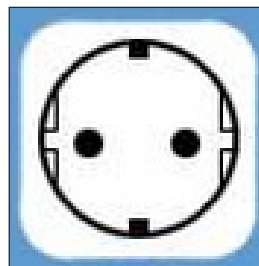

fig. 24 - Schuko socket
- a Schuko (fig. 24) or French wall socket with ground and separate protection